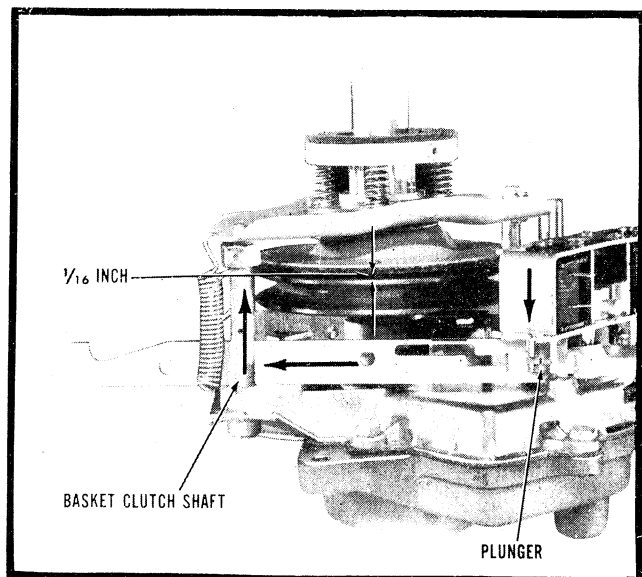

Figure 138
- 3) Adjust the nut on the basket clutch shaft to obtain a clearance of 1/16 inch with the clutch disengaged, Figure 138.